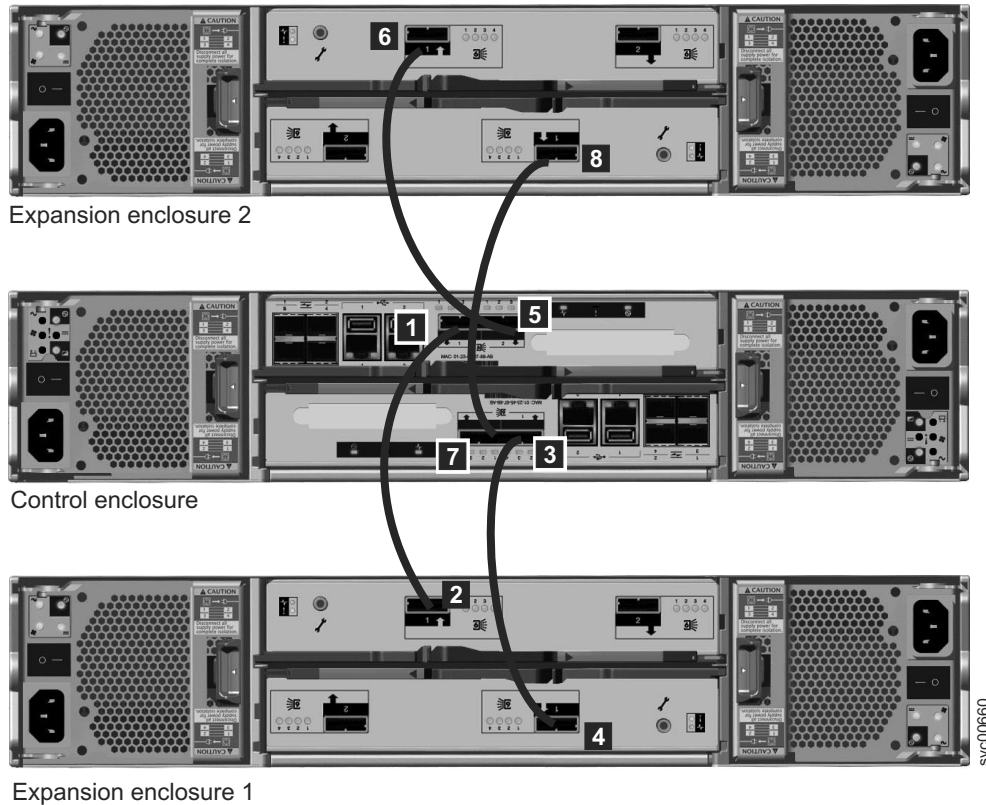

Figure 13. Adding a second expansion enclosure
3. Attach the SAS cables from the control enclosure to the second expansion enclosure as shown in Figure 13. The second expansion enclosure is above the control enclosure.